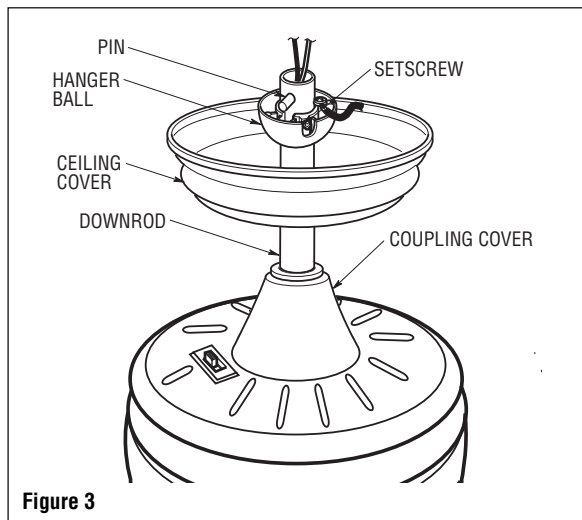

Figure 3
- While pulling up on the downrod, securely tighten the two setscrews in the motor coupling (Figure 3).
- Make sure the grommet is properly installed in the coupling cover then slide the coupler cover on the downrod until it rests on the motor housing. Place the ceiling cover over the downrod. Be sure both the ceiling cover and the coupler cover are oriented correctly (Figure 3).